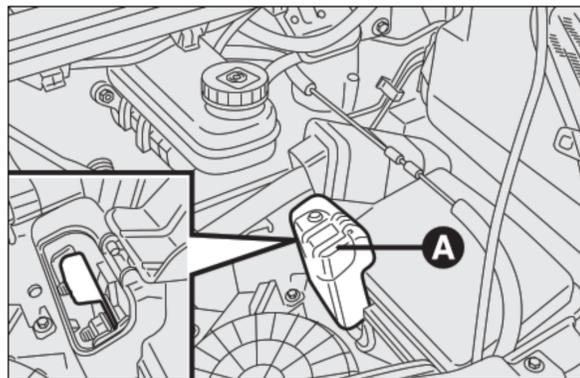

fig. 1
- lift the lid **A** to connect to the battery positive terminal **fig. 1**.